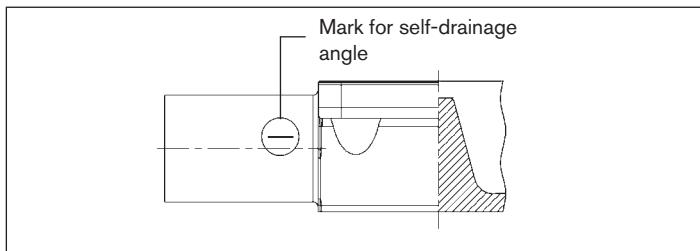

Fig. 13: Mark for the correct installation position
- Observe an inclination angle of 1° – 5° . Forged and cast bodies feature a mark which must face upwards (12 o'clock position, see "Fig. 13").